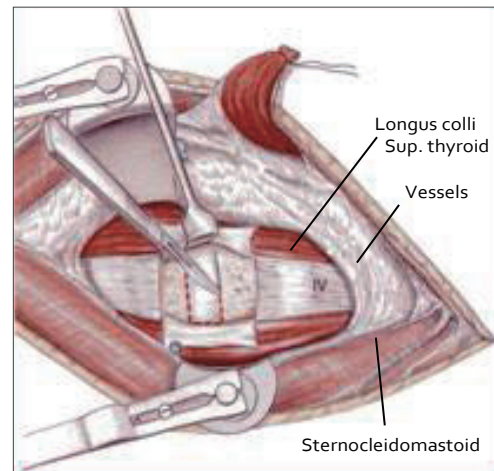

Figure 5
- The longus colli muscle is retracted laterally with a self-retaining retractor while Caspar Distractor is applied longitudinally distracting the upper and lower bodies. The anterior longitudinal ligament and anterior portion of the annulus fibrosus are excised, exposing vertebral body. (Figure 5)